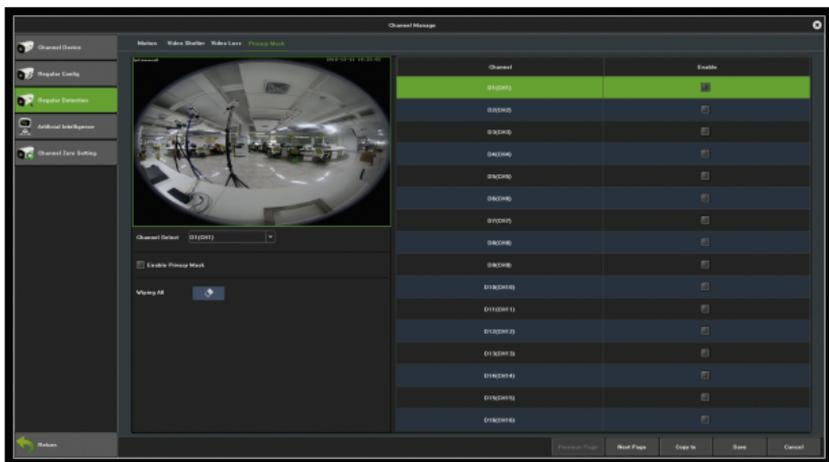

Figure 7.21 Video Mask
- 1) Enter the **Privacy Mask Settings** interface, as shown in Figure 7.21.
As shown in Figure 7.21, there are "IPC detection" and "local detection" modes; the former is the default setting. The IPC detection mode requires the IPC to support smart detection. If IPC front-end detection is not supported, the NVR Local Detection mode is then selected.
The purpose of this page is to configure relevant parameters so that the target count alarm occurs when a moving object whose area or volume is larger than a pre-defined value strides across the set detection line to obtain the number set by the detection rules, as shown in Figure 7.21. The following describes the parameters of the pages on the set method.